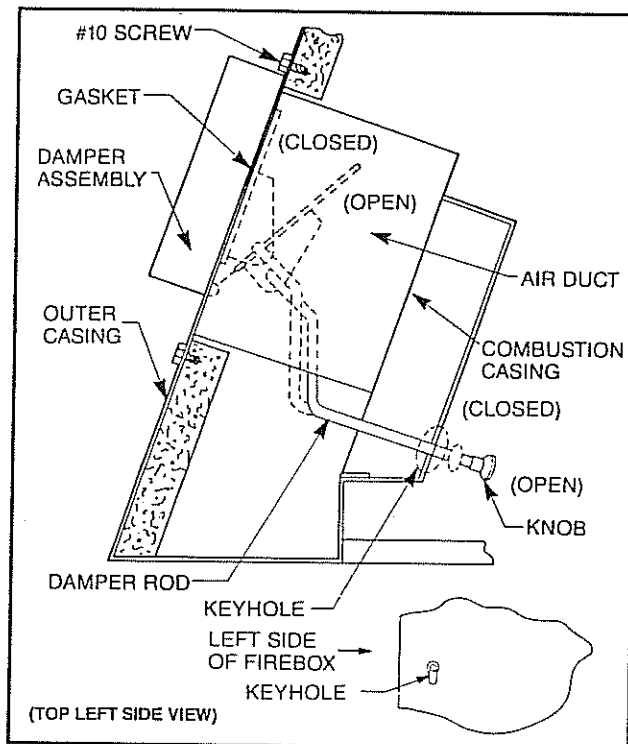

Fig. 17. Mounting damper assembly.
You are ready to install the air duct and the damper assembly. Insert the air duct into the hole in the outer casing, originally covered by the cover plate, until its side flanges contact the outer casing. (Note: Slot in air duct should be toward the front of the fireplace when installed.) Position the gasket to the backside of the damper assembly. Install the damper assembly by inserting its damper rod through the slot in the air duct and through the keyhole in the bottom of the left side baffle. (See Fig. 17.) The damper assembly should be positioned so the damper blade swings freely in operation. When positioned properly, attach the damper assembly to the outer casing by aligning the four (4) mounting holes and securing with four (4) screws removed previously. Attach the knob to the threaded end of the damper rod.